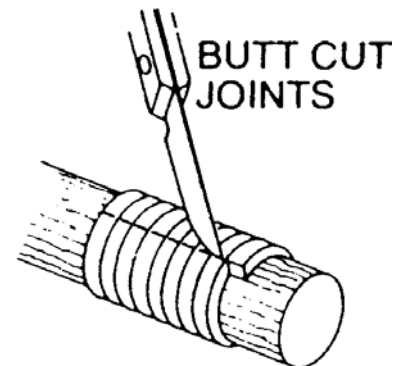

FIGURE 4: Butt-Cut Joints
- Select the correct size and type of packing (refer to the mixer specification sheet). Using a bar that is the same diameter as the mixer shaft, wrap the packing around the bar once for each ring of packing that is required. We do not recommend cutting the packing on the mixer shaft because it can score the shaft and cause leakage. If butt-cut joints are desired, make one longitudinal cut across all rings (see Figure 4). If diagonally-cut joints are desired, draw two longitudinal lines, spaced equal to the packing thickness. Then, individually cut each ring at a 45-degree angle (see Figure 5).